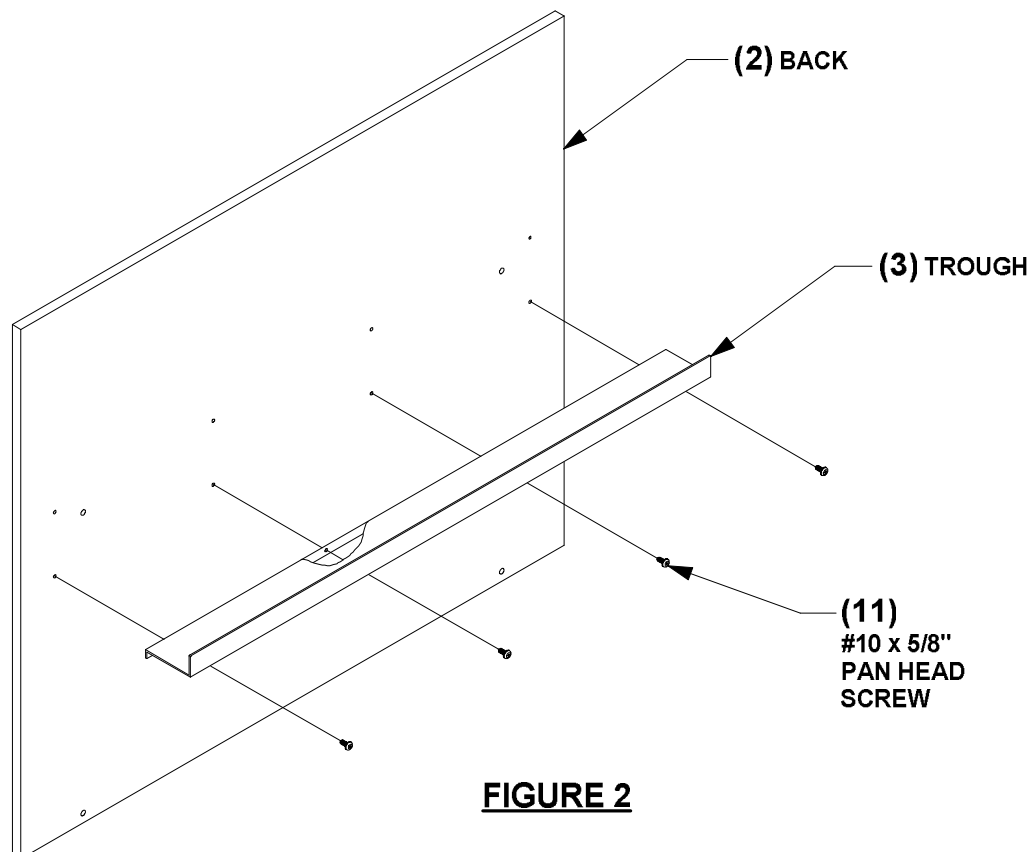

FIGURE 2
4. Attach trough (3) to back (2) using #10 x 5/8" pan head screws (11). See figure 2.